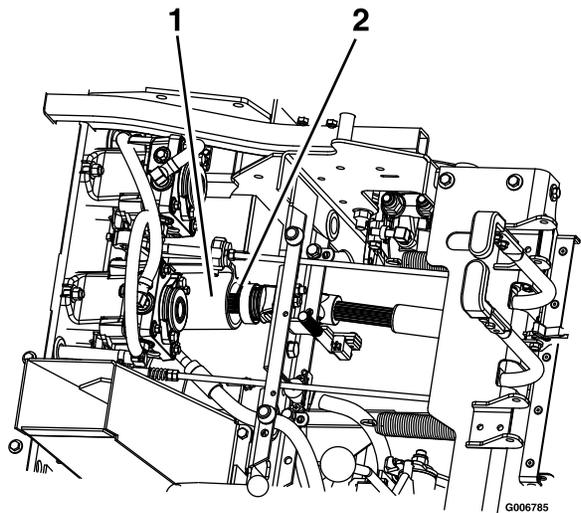

Figure 78
- Unlatch the seat and disconnect the drive shaft using the quick coupler at the jackshaft (Figure 78).
- Install the 1 drive shaft onto the jackshaft (Figure 78).